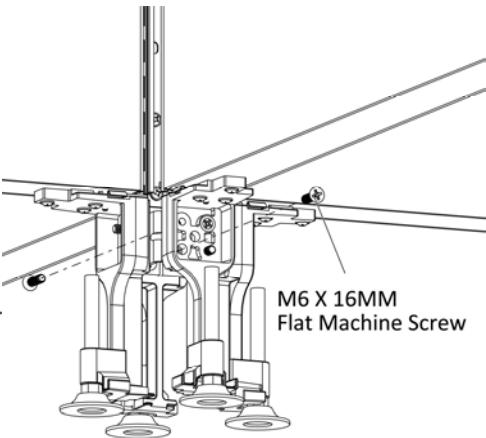

Figure 9
- 15.** Secure the base with two M6 X 16MM Flat Machine Screws, (Figure 9).